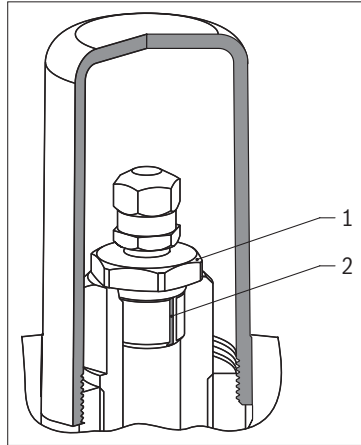

Fig. 11: Relieving nut
- ▶ Loosen the gas valve insert, see Fig. 11, item 1, slowly using an open-end wrench SW 17, until the residual pressure is audibly released via the relieving nut, see Fig. 11, item 2, in the thread of the gas valve insert.